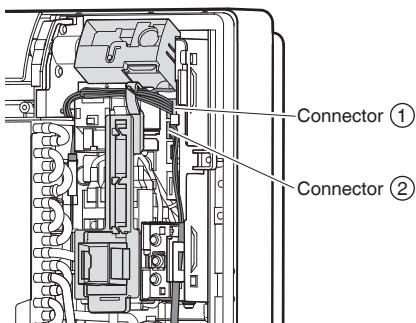
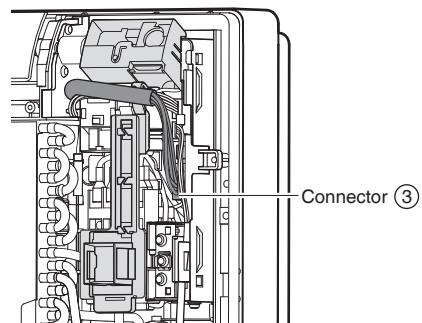

Fig. 4
Fig. 5
- 4) Remove connectors ① ② ③. (See **Fig. 4** and **Fig. 5**)
- 13) Install the connectors ① ② and guide the cord as shown in the figure. (See **Fig. 4**)
- 14) Install connector ③ and guide the cord as shown in the figure. (See **Fig. 5**)